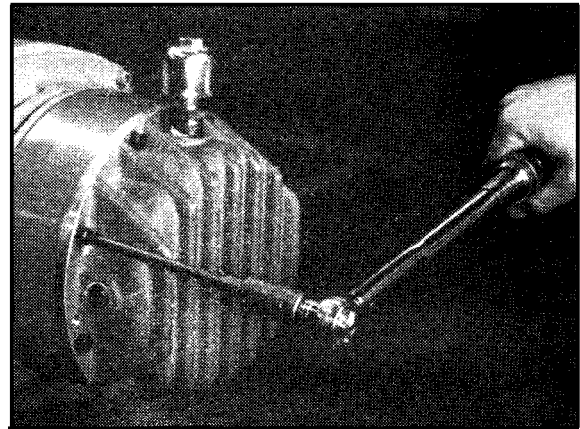

Figure 3-11
**NOTE** - Install breather #45 and reducer bushing #76 on top of end housing #9 (See Figure 3-11).
3. Attach the end housing with (8) soc. hd. cap screws #72 and lockwashers #128 to a torque reading of 15 Lb. Ft. (See Figure 3-11).